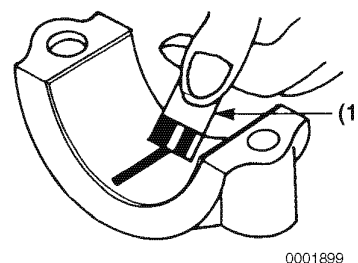

Figure 8-43
- (f) Compare the width of the flattened PLASTIGAGE to the graduation marks on the package (**Figure 8-43, (1)**). The mark that most closely matches the width of the flattened PLASTIGAGE will indicate the bearing oil clearance. *See Crankshaft, Balancer Shaft, Piston and Connecting Rod on page 8-7 for the wear limit.*